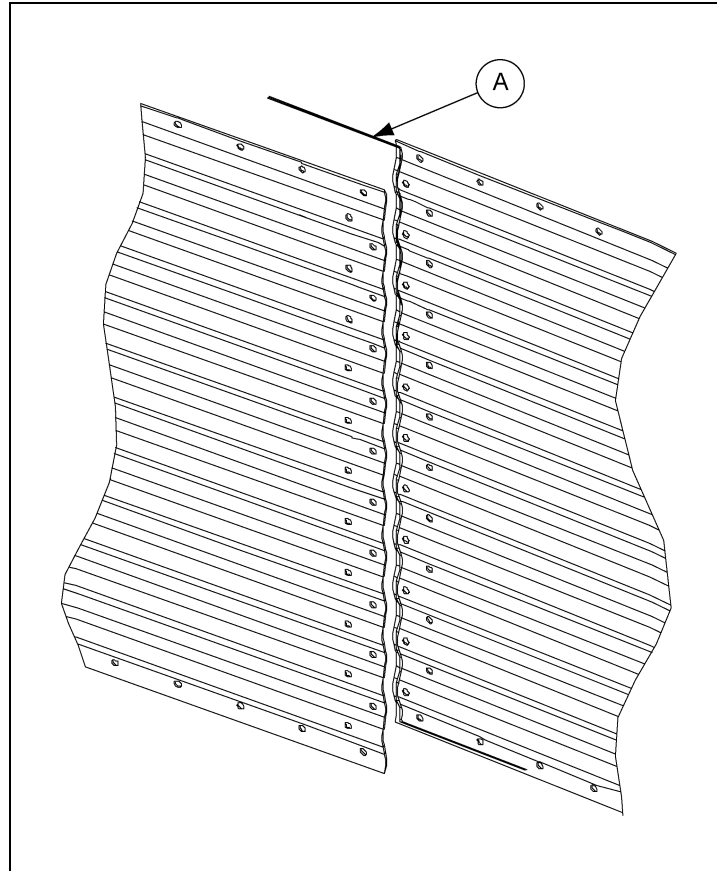

Figure 6C Caulking and Bolting Details (Viewed from Inside of the Bin)
1. Apply a strip of caulk near the outside edge of the outer sheet and between the outer two (2) rows of bolts (A), then apply a strip of caulk 10" (25.4 cm) long along the horizontal seams (B), as shown in Figure 6C.